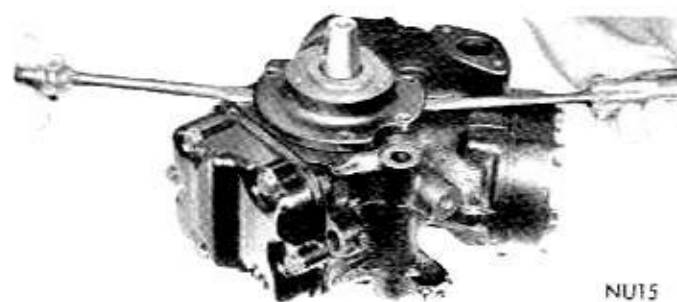

Fig. 12—Removing the Crankshaft Bearing Housing
(1) Loosen belt, remove clutch, coil and drive key.
(2) Remove crankshaft bearing housing seal bolts.
(3) Remove bearing housing from crankshaft, using two screwdrivers inserted in the slots provided to pry the housing from the case (Fig. 12).
(4) Remove bearing housing oil seal.
(5) Remove gas seal seat plate from the bearing housing. This is part of the gas seal replacement package and must be replaced when the gas seal assembly is replaced.
(6) Clean the front bearing housing thoroughly.